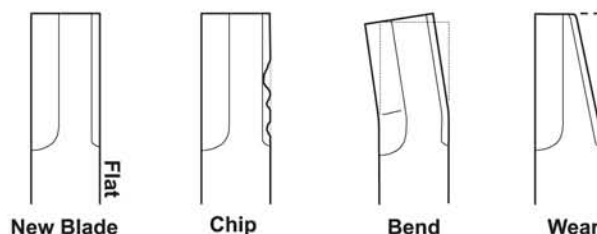
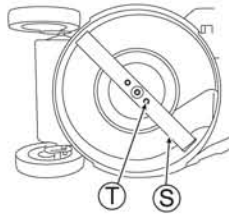

Fig. 30
Fig. 31
1. Confirm that there is no chip, bend, or wear with Blade (S). (See Fig. 30)
2. If Blade (S) or its mounting bolts (T) are "worn", "broken" or "deformed", exchange with new one(s) specified by us.
3. Confirm that Blade mounting bolts (T) are tightened by the specified torque. (See Fig. 31)
2. Fully tighten Blade mounting bolts (T) with hand.
4. Confirm that Blade mounting bolts (T) are tightened by the specified torque. (See Fig. 31)